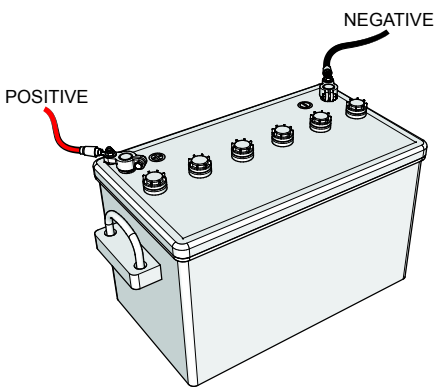

Figure 38. Battery Connections
**ALWAYS** be sure the battery cables (Figure 38) are properly connected to the battery terminals as shown below. The **red cable** is connected to the positive terminal of the battery, and the **black cable** is connected to the negative terminal of the battery.